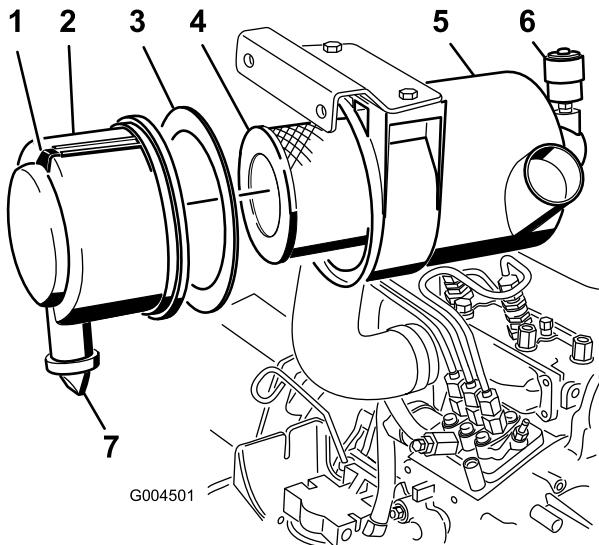

Figure 43
- Service the air cleaner filter when the air cleaner indicator (Figure 43) shows red or every 400 hours (more frequently in extremely dusty or dirty conditions). Do not over service the air filter.
- Pull the latch outward and rotate the air cleaner cover counter-clockwise (Figure 43).
- Remove the cover from the air cleaner body (Figure 43).
- Remove and replace the primary filter (Figure 43).
- Ensure that the foam gasket is in place in the cover and that it is not torn or damaged (Figure 43). If it is damaged, replace it.
- Remove the rubber outlet valve from the cover (Figure 43).
- Reset the indicator (Figure 43) if showing red.